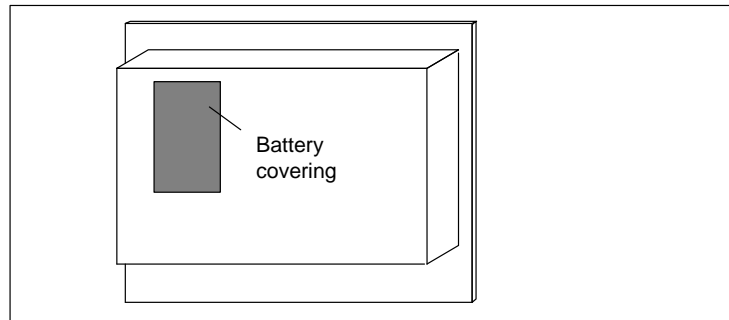

Figure 18-1 Location of the battery covering on the OP25
3. Loosen the battery covering (→ figures 18-1 and 18-2).